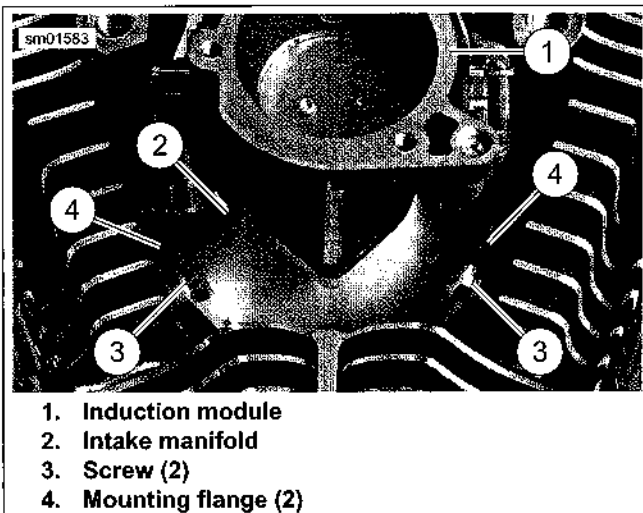

Figure 4-19. Intake Manifold Mounting Screws: Right Side
13. See Figure 4-19. Remove two screws (3) securing intake manifold to heads on right side of vehicle.
14. Pull mounting flanges (4) away from heads as much as possible and pull induction module and intake manifold assembly toward the right side, away from vehicle.
15. See Figure 4-19. Remove throttle cable (5) from throttle wheel (7)
- a. Lift throttle cable housing (1) up out of cable guide (3) in throttle/idle cable bracket (2).
- b. Slide throttle cable (5) out through slot (4) in cable guide.
- c. Unwind throttle cable from groove in throttle wheel (7).
- d. Slide cable out through slot (8) and remove throttle cable barrel (6) from throttle wheel.
5. See Figure 4-19. Holding induction module/intake manifold assembly in place, install two mounting screws (3) into remaining mounting flange holes. Tighten all four screws finger-tight.